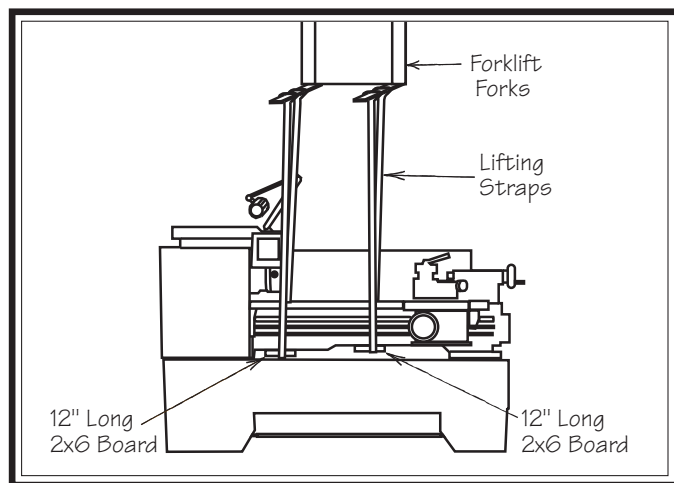

Figure 19. Lathe set up for lifting with forklift.
6. Attach the lifting straps to the forklift forks or a hook and chain, as shown in Figures 19–20.